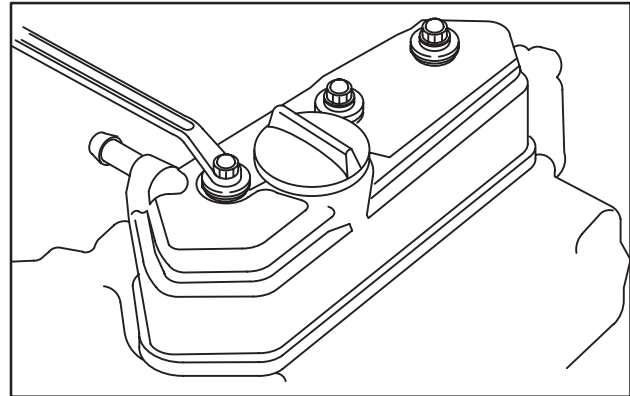

Fig. 5 – Remove Valve Cover
3. Remove valve cover, Fig. 5.